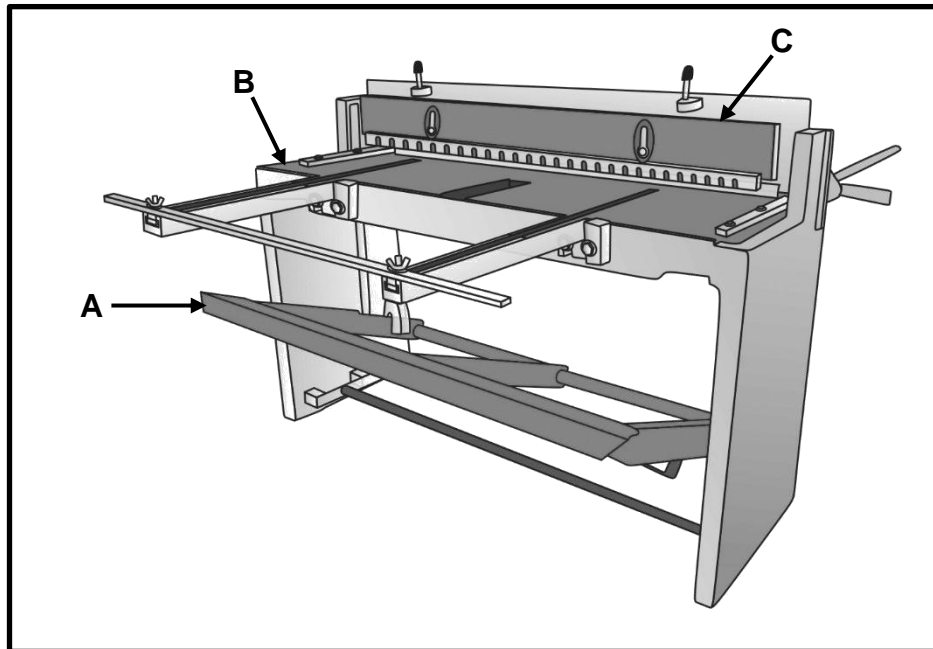

FIGURE 6.1
6.1 FIGURE 6.1 below shows a manual guillotine. Label parts A–C.